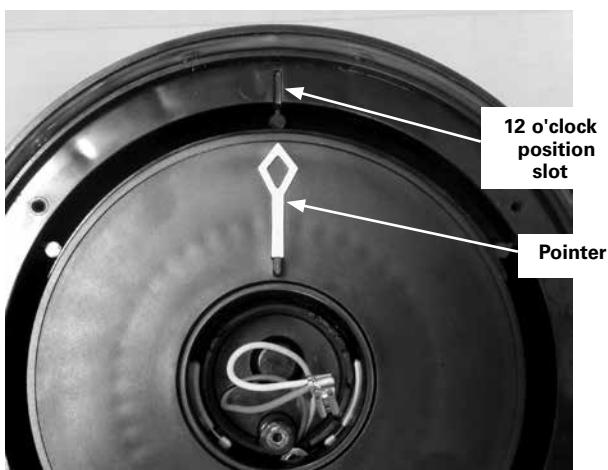

Figure 10. Pointer alignment
4. Replace the pointer ring into the position indicator housing. Align the yellow pointer with the slot at the 12 o'clock position. See Figure 10.
The letter "N" must be aligned over the elongated slot at the 12 o'clock position. See Figure 10.